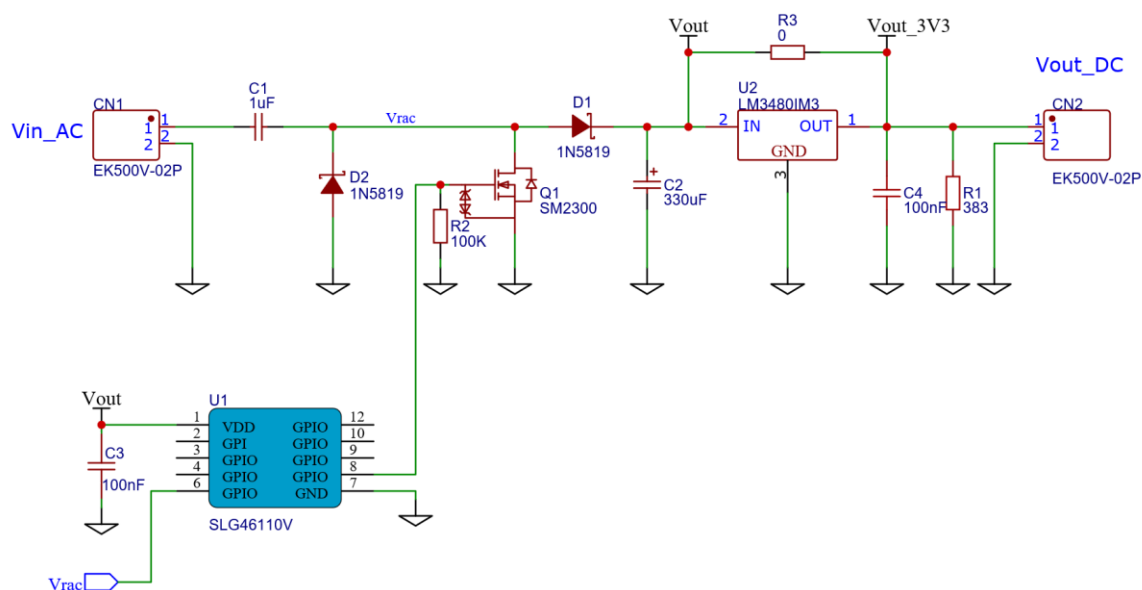
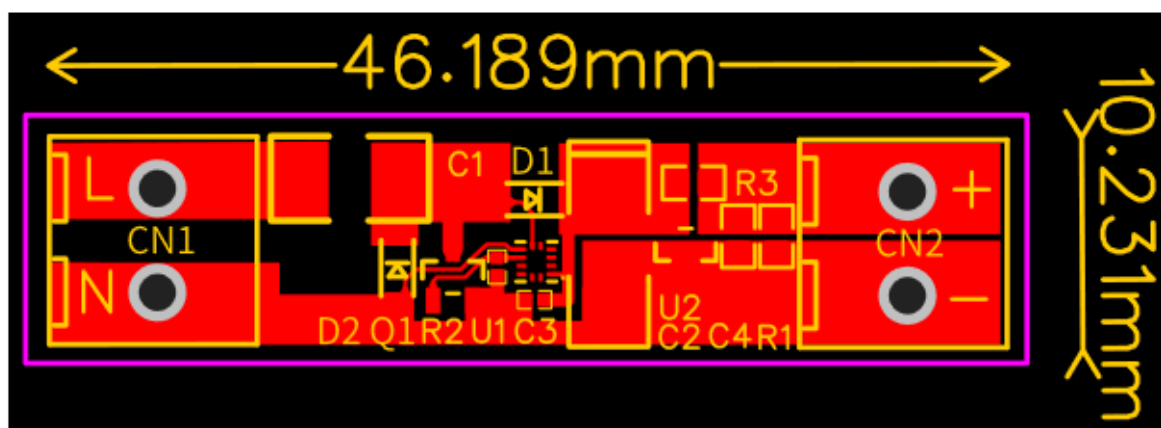
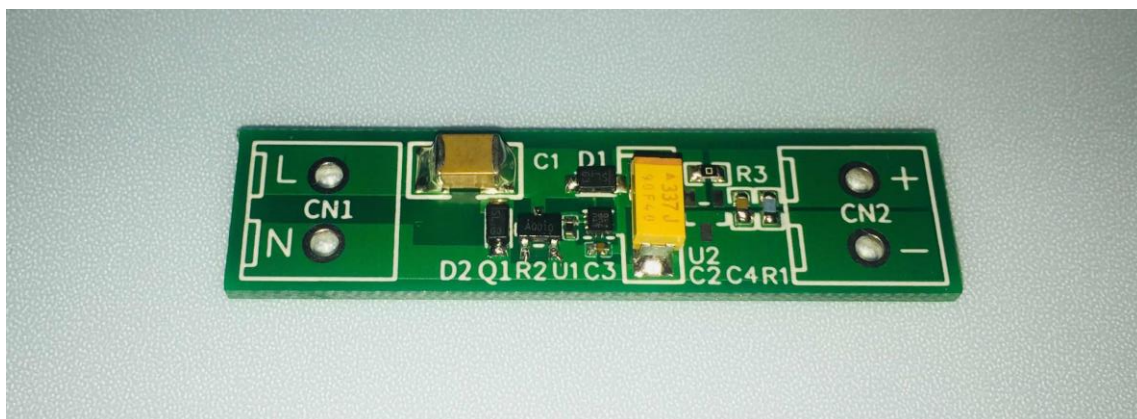

Figure 3: CCSS Regulator Schematic
Figure 4: CCSS Regulator PCB Layout
Figure 5: CCSS Regulator Prototype
Figure 3 depicts the circuit schematic of the low power AC-DC converter module. It uses the SLG46110 (U1) to control the CCSS. The module operates at an input AC voltage range from 90V to 260V(CN1), and over a non-isolated output of 3.3V (CN2). An optional LDO (U2) is added after the V_{out} to further stabilize the output voltage. The SLG46110 device generates the control signal that switches the MOSFET shunt (Q1) based on the V_{out} and V_{rac} threshold levels. 1N5817 Schottky diodes were used for D1 and D2. Since the dissipation factor (DF) of C_s has a large effect on the efficiency of the circuit, a $1\mu F$ capacitor with a relatively small DF of 40×10^{-4} is used for C_s . Figure 4 shows a picture of the PCB Layout of the board. Figure 5 shows a photograph of the complete design PCB described in this app note.
As shown on Figure 3 VDD of the SLG46110 device is connected to V_{out} and PIN6 to V_{rac} . ACMP0 is used to sense V_{out} voltage. With the additional logic, it will turn off the MOSFET shunt when $V_{out} < 3.6V$. ACMP1 is used to sense V_{rac} voltage. It will turn on the MOSFET shunt when $V_{rac} < 1V$. Refer to Figure 7 for the ACMPs settings.